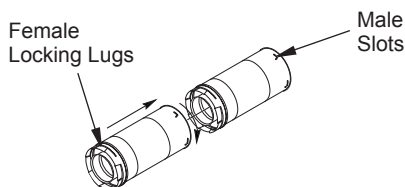

Figure 11 - Vent Pipe Connections
Twist-Lock Procedure: The female ends of the pipes have locking lugs (indentations). These lugs will slide straight into matching slots on the male ends of adjacent pipes. Push pipe sections together and twist one section clockwise approximately one-quarter turn until the sections are fully locked (see Figure 11). **Note:** Horizontal runs of vent must be supported every three feet. Use wall straps for this purpose.
2. Assemble the desired lengths of pipe and elbows necessary to reach from the fireplace flue up through the firestop. Be sure all pipe and elbow connections are fully twist-locked (see Figure 11, page 10).